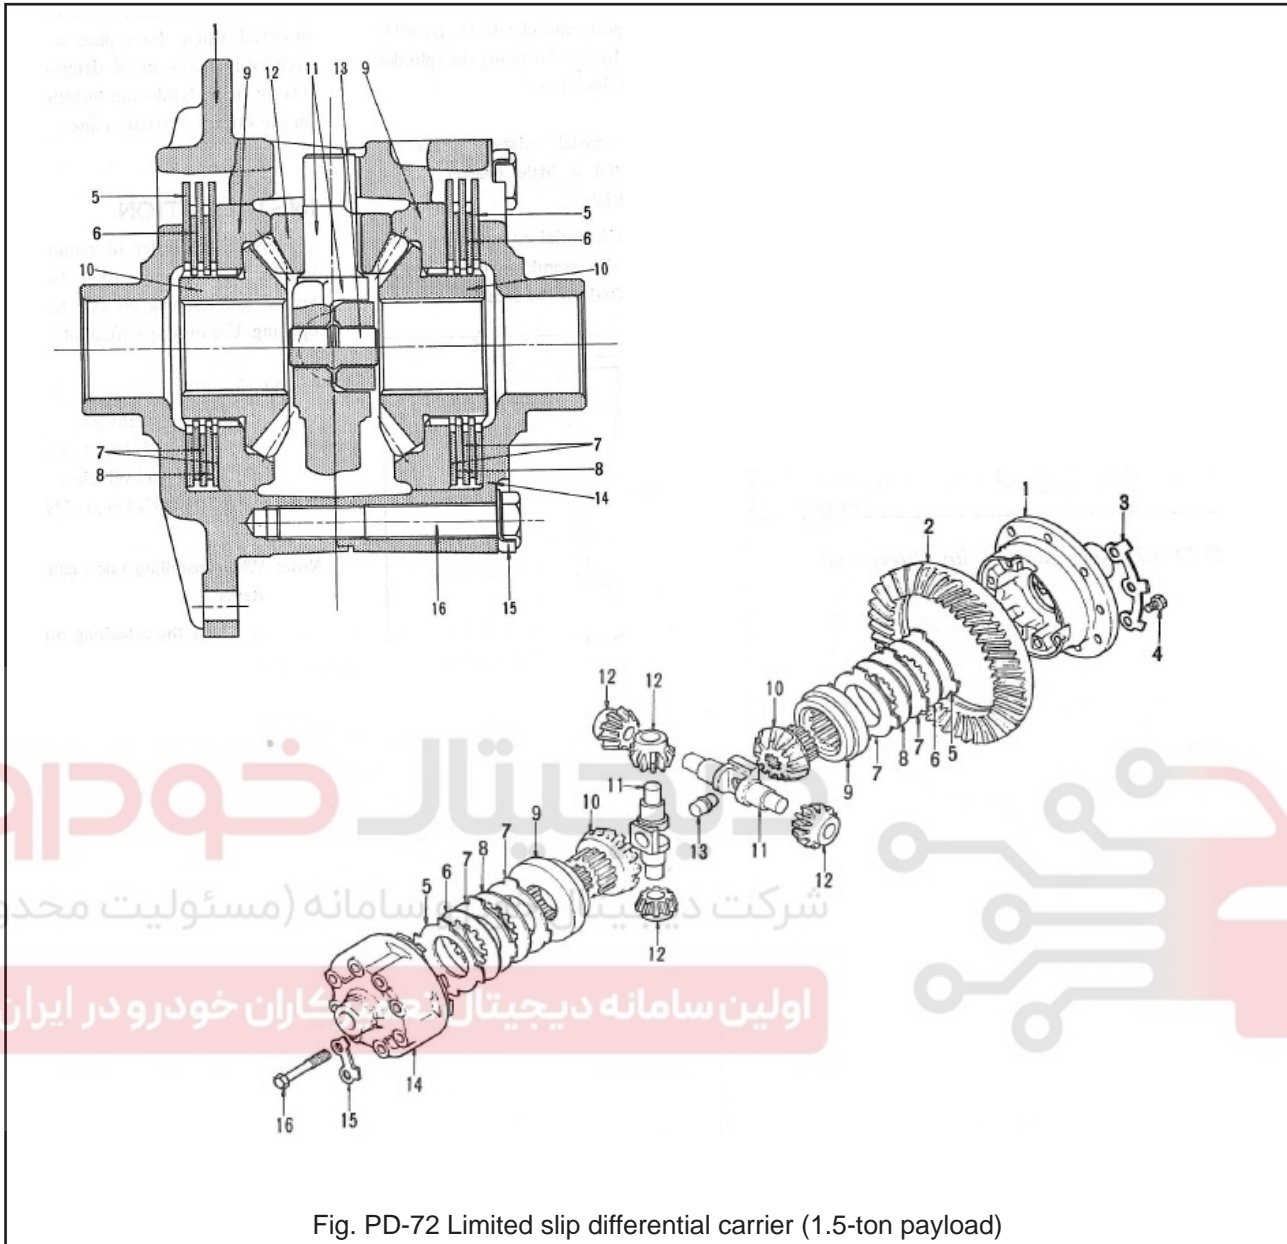

Fig. PD-72 Limited slip differential carrier (1.5-ton payload)
The limited slip gear carrier used on 1.5-ton payload vehicle differs from the conventional type gear carrier only in the construction of the differential case assembly. The differential function is controlled trolled by wet multi-plate friction type clutches that are composed of the friction plates, friction discs, friction dish plates, friction dish discs, and pressure rings. Instead of single differential pinion shaft for conventional type, two separate differential shafts having V-tapered cam at their each end are used (Fig. PD-72).
2. Assemble two (2) differential shafts, four (4) differential pinions, one (1) thrust piece, two (2) differential side gears, two (2) pressure rings, four (4) friction plates, and two (2) friction discs without applying oil in the order as shown in Fig. PD-72.
Assemble the component parts in differential case A and B respectively in the order as shown in Fig. PD-72.